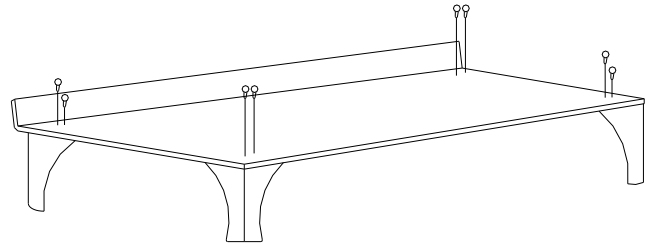

FIGURE 7A
(B) Attach the legs to the base using the nuts and bolts provided. Position the legs on the bottom of the stove so that it is centered and 2” back from the front edge of the stove bottom. (FIGURE 7A)